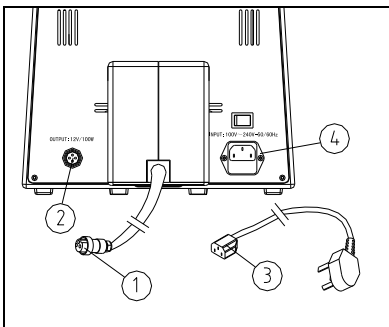

Fig.10
- (1) Make sure the main switch is at “O” (OFF) position.
- (2) Match the gap of the lower light source aviation plug ① to the gap of the aviation socket ②, and insert it to the bottom. (See Fig. 10)
- (3) Insert one end of power cord ③ into the power socket ④ of the microscope.
- (4) Insert the other end of power cord into the power supply socket.